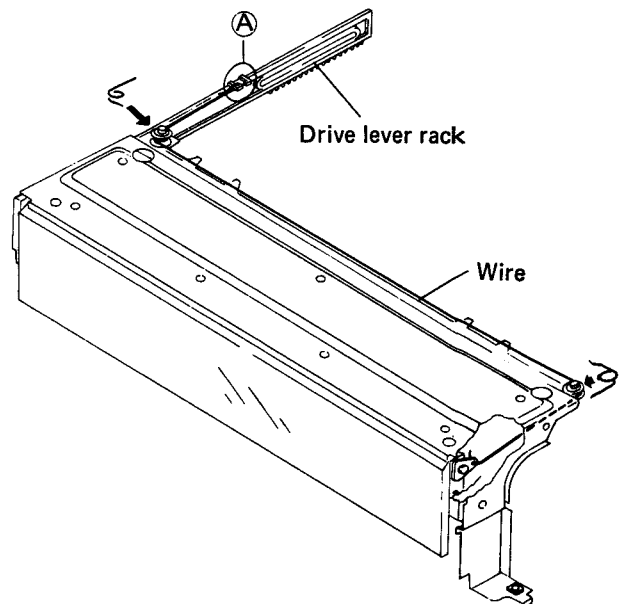

Fig. 1-20 Door angle Ass'y
3. Undo screws ❷ and remove the front panel (operation panel). This panel can be removed altogether if connector ❶ is disconnected.
4. Undoing screws ❸ enables removal of the door angle unit. Since the drive lever rack for opening the door engages the main gear in this door angle unit, perform this operation with due care (see Fig. 1-20).
The wire supporting the left hand side of the door when the door is opened and closed is wound once around each pulley and fixed to point A shown in Fig. 1-20 to ensure adequate tautness in the wire.